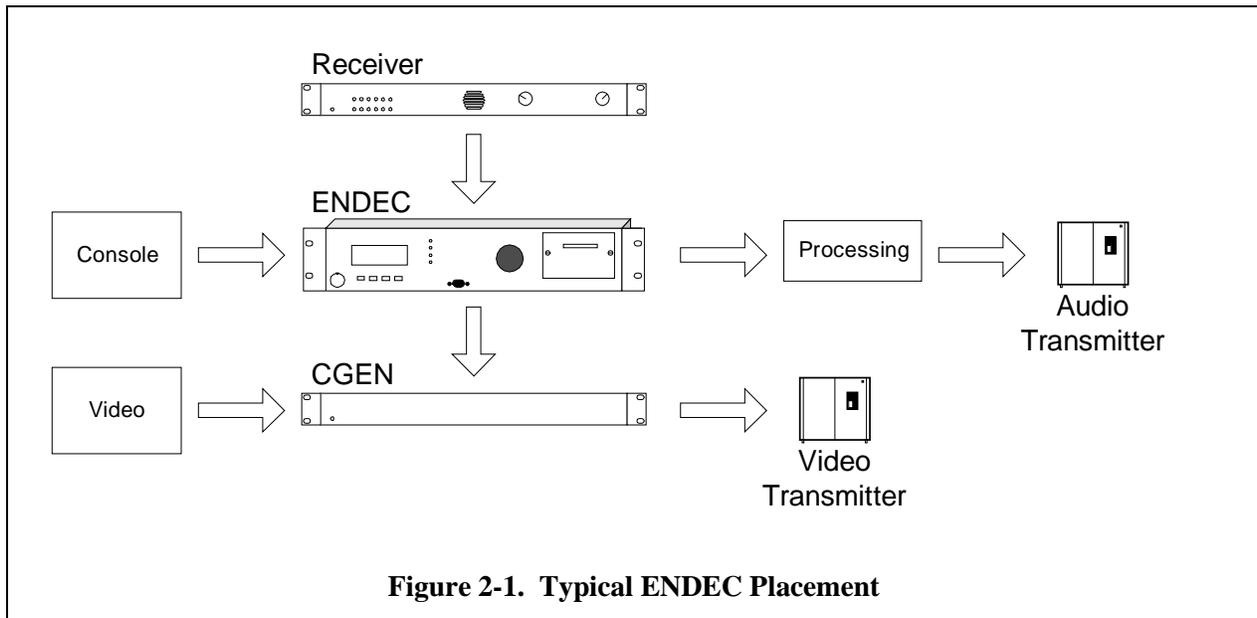

Figure 2-1. Typical ENDEC Placement
- Main Audio IN and Main Audio Out XLR connectors. This is the easiest way to switch out the program audio and switch in the alert audio. Use connectors on the back of the ENDEC to place the ENDEC between the console and other station audio sources and the transmitter (or STL). The ENDEC is usually placed before any audio processing. See Figure 2-1.